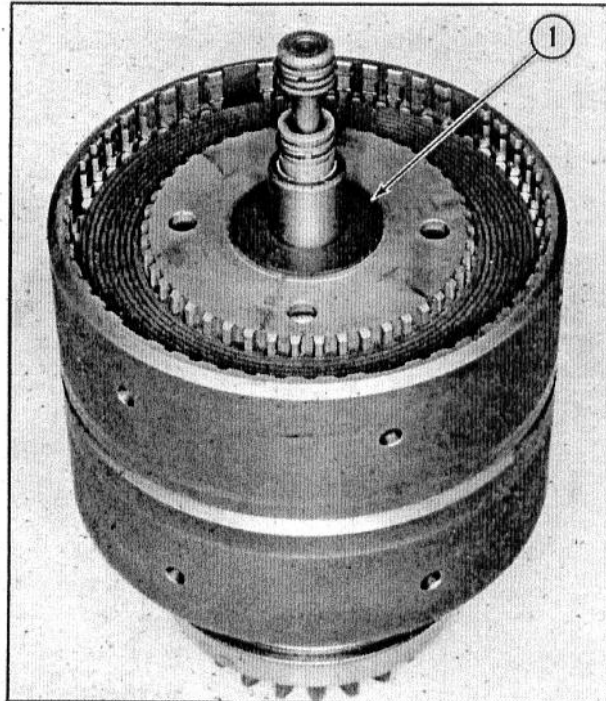

Fig. 52 - Installing Fiber Thrust Washer
22. Install the fiber thrust washer, shown in Fig. 52, and then carefully slide the input shaft straight down over the output shaft. Install the large diameter snap ring, holding the input shaft into the forward clutch assembly.